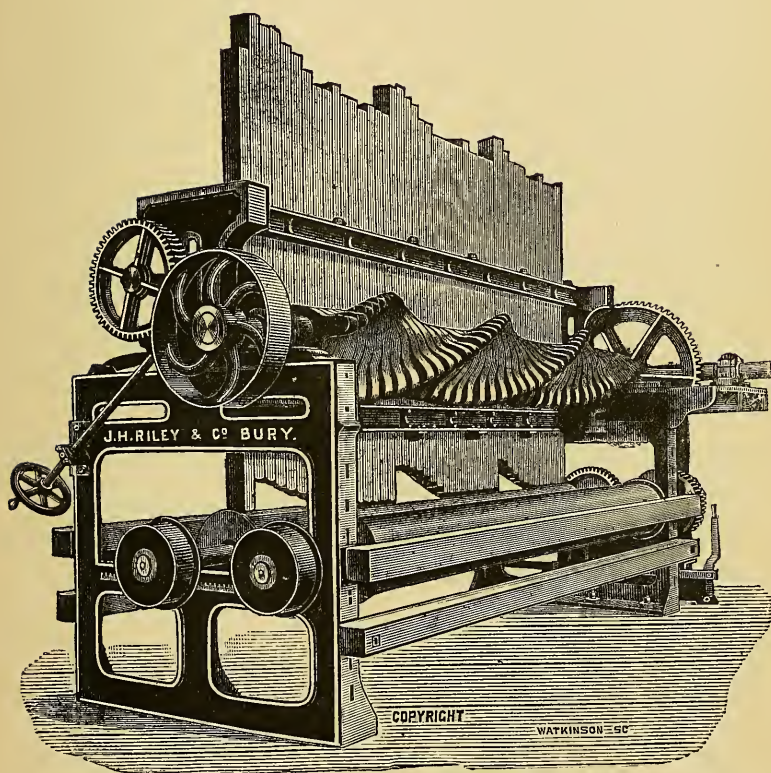

Fig. 73.—Beetling Machine.
**Beetling.**—Perhaps this process has received the most attention of all those in use for the finishing of either cotton or linen goods, the most noteworthy of the machines which might be mentioned being a 14-foot roller beetle, with forty beech fallers of large size. In this excellent machine (shown in Fig. 73), a wiper shaft is fitted with forty three-lift tappets, of the greatest possible strength, in section, put on the shaft singly. The fallers rise 11 inches, and the cloth beams of this improved beetle are provided with a self-stripping arrangement, as well as with the regular cam motion. The machine is driven by a 5-inch shaft, on which are placed a pair of 30-inch friction cones and a bevel pinion, gearing into a larger bevel on the end of the wiper shaft. These wheels should be seen to be appreciated.